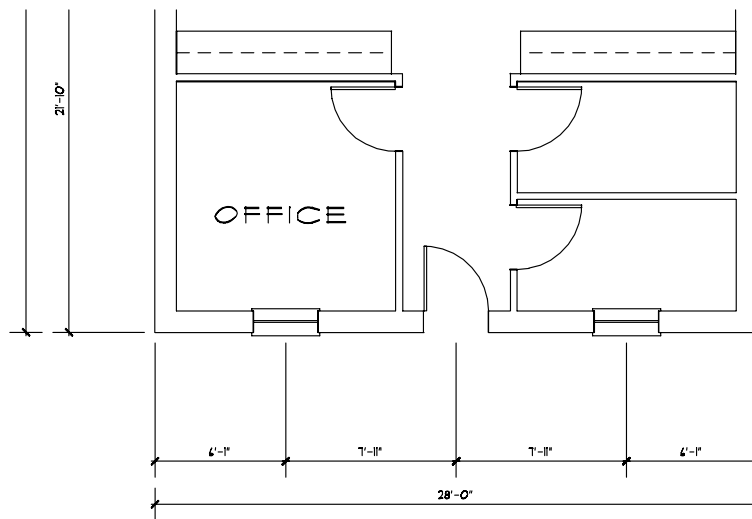

Figure 4.13: The front wall is dimensioned
15. Click on Overall to place an overall dimension. The front wall is dimensioned. (See Figure 4.13)